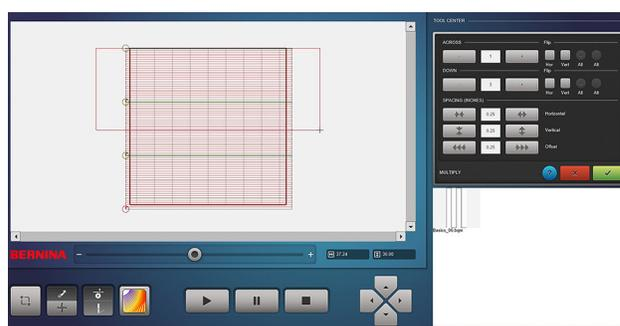

Fig. 70
8. Select Multiply. Set it to 1 row across and then add enough rows down until the grid is filled (three rows were needed for this example) (Fig. 70).